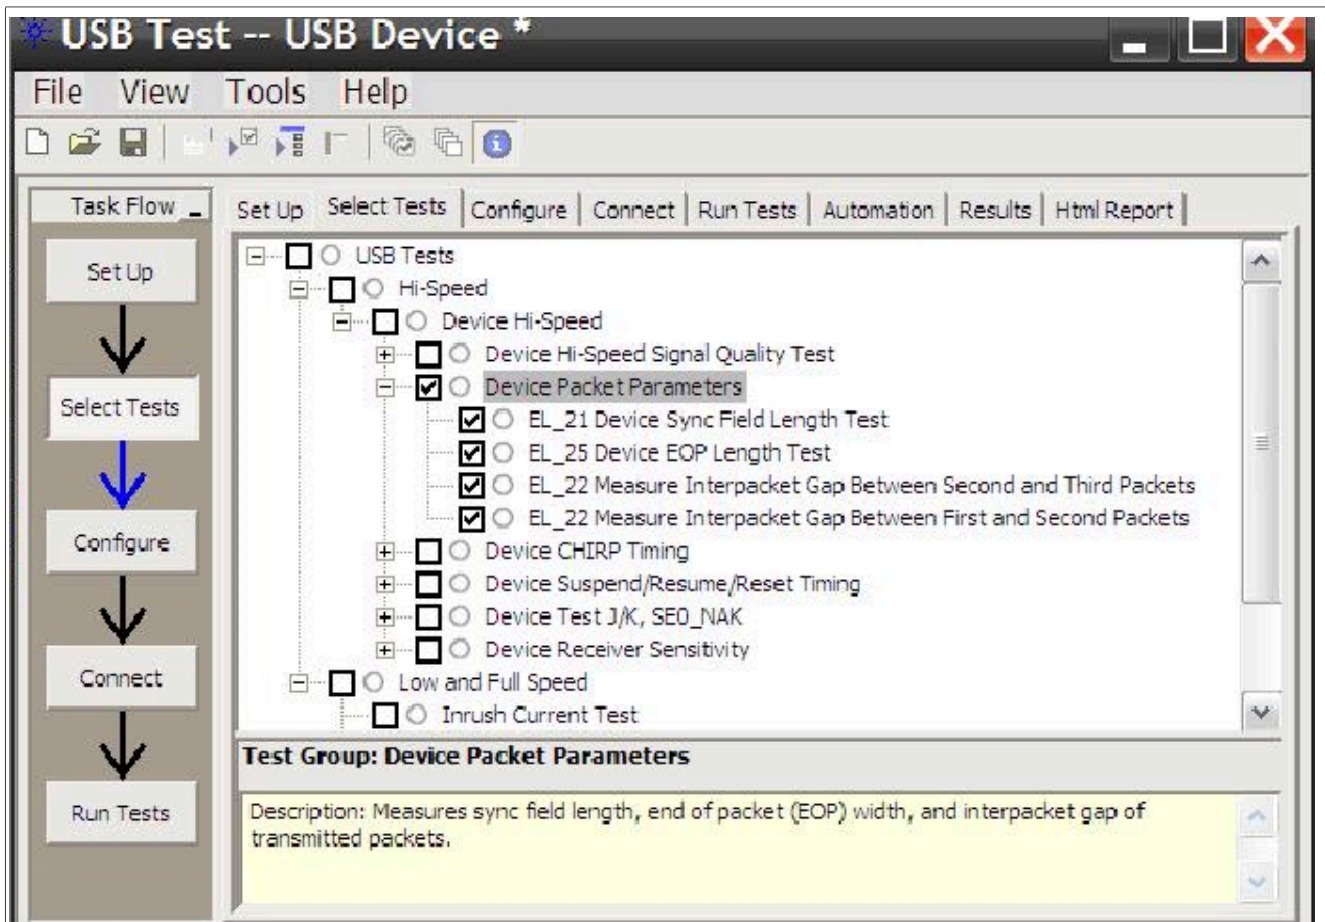

Figure 33. Device HS Packet Parameters Test
1. Select the test items in the USB Automated Test Software on Oscilloscope as shown in Figure 33, and make sure you set the Test Type configuration option to “Hi-Speed Near End” before running the test.